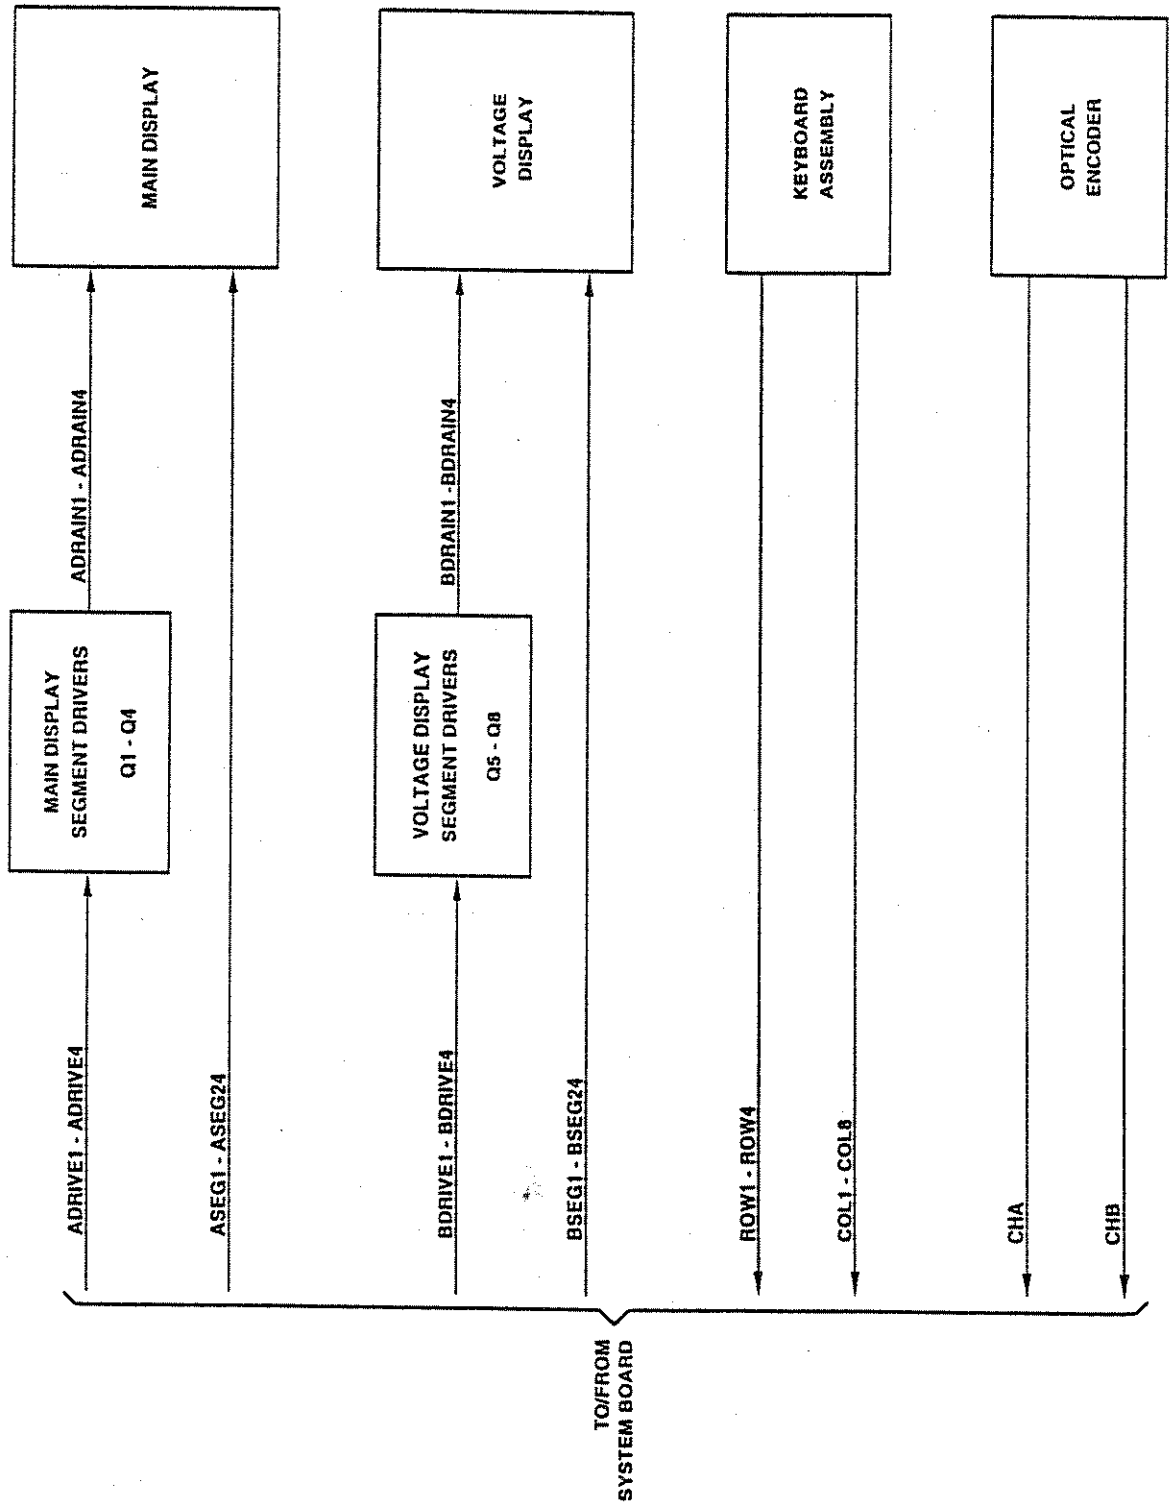

Figure 4-7. Display/Keyboard Block Diagram
4.4.4 DISPLAY/KEYBOARD ASSEMBLY (Figure 4-7, 7-4)